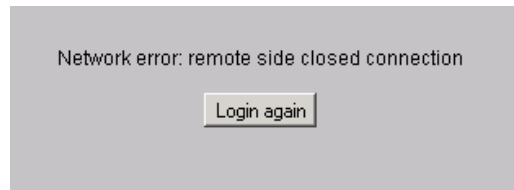

Figure D-21 TightVNC Network Error Message
- b. Select the *Restart* option from the list box and click *OK*. The backup server powers down and restarts. During the reboot process the LAN connection between the backup server and browser-capable PC drops momentarily, and the TightVNC viewer displays a network error (Figure D-21).
- b. Select the *Restart* option from the list box and click *OK*. The backup server powers down and restarts. During the reboot process the LAN connection between the backup server and browser-capable PC drops momentarily, and the TightVNC viewer displays a network error (Figure D-21 on page D-16).